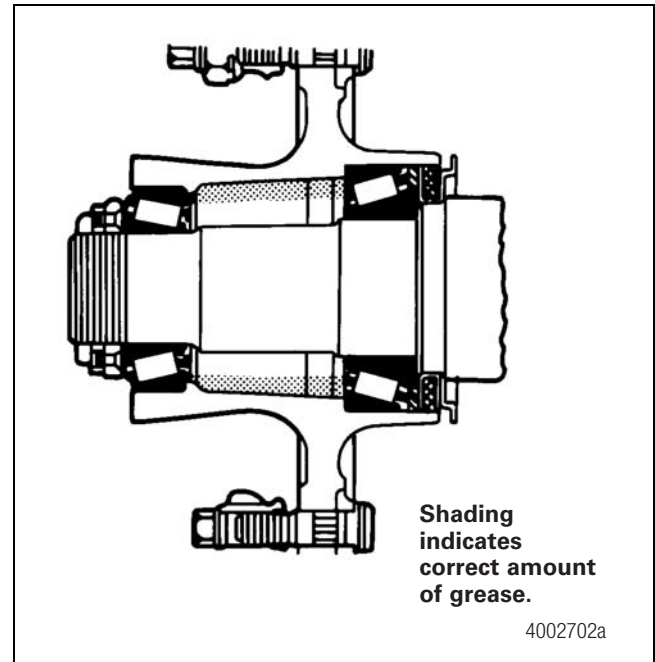

Figure 13.8
- C. Pack the area of the hub between the two bearings with grease up to the smallest diameter of the bearing cups. Figure 13.8.